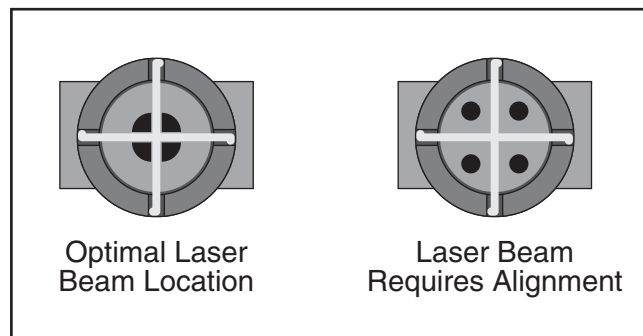

Figure 97. Laser beam alignment marks.
15. Close top loading door and check alignment by pressing Pulse button on control panel. Compare results with **Figure 97** below.
18. Verify mirror adjustment by pressing Pulse button on control panel. Compare results with those shown in **Figure 97** on **Page 58**.
20. Check alignment by pressing Pulse button on control panel. Compare results with those shown in **Figure 97** on **Page 58**.